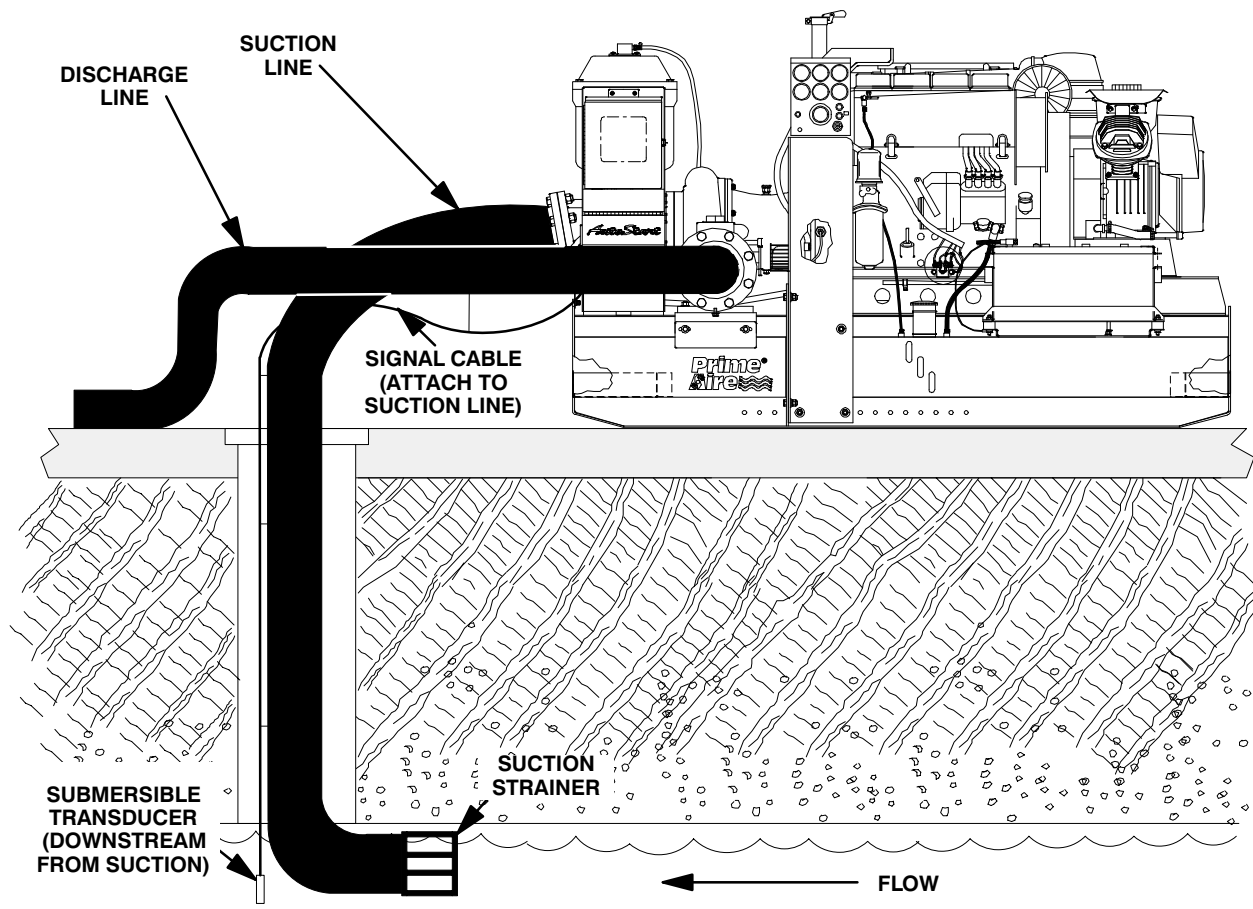

Figure 5. Typical Submersible Transducer AutoStart Pump Installation
- Be sure** to provide sufficient room in the wet well or sump so that the sensor does not get drawn into the suction line. To prevent this, a flexible suction hose may be extended to lay along the bottom of the wet well or sump. The sensor can then be attached to the hose above the point where it bends along the bottom. See Figure 5 for a typical installation.